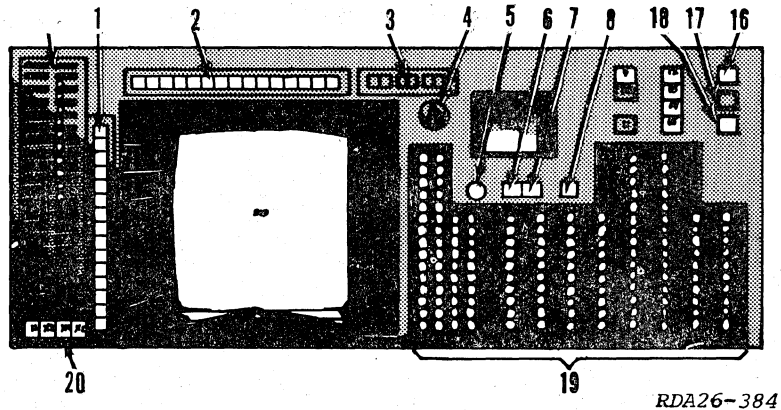

Figure 1-30. Data Display Console
**DATA DISPLAY CONSOLE.** The data display console (DDC) (refer to figure 1-30) is used to provide a visual presentation to an operator so that he may monitor and evaluate an air defense situation within a given geographical area. More than one console is required to monitor the air defense for a given location. For example, suppose that an installation is in the area of Cape Kennedy, Florida. One console may be assigned to the southern portion of Florida and others will be assigned to other geographical areas in and around Florida. The functions performed by the consoles may vary, and there are functions that need to be duplicated due to the limited amount of information that can be presented on one CRT.
A data display console can be divided into three basic sections. There are the situation display section, which consists of a large CRT (left side of figure 1-30); a tabular display section, which consists of a small CRT (center of the figure); and the manual intervention section, which is used to communicate with the computer system (lower right of figure). The situation display section is used to process and display such information as aircraft movement, boundaries, radar data, and air base locations. The tabular display section is used to process and provide the operator with the information he has requested, or provide tabulation of information that pertains to the function the operator is performing. The manual intervention section is used to interrupt the computer system when the operator requests more information or desires to insert information into the system.